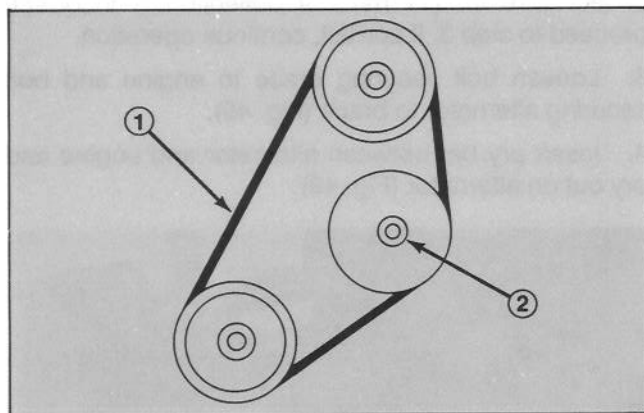

Figure 50
3. Belt should deflect 1/4 in. (6 mm) midway between the pulleys with 5 lb force (22 n) (Fig. 50). If deflection is incorrect, proceed to step 4. If correct, proceed to step 5.
4. Loosen locknut securing idler pulley (Fig. 50). Push idler pulley against belt until proper deflection is achieved and tighten idler pulley locknut (Fig. 50).
2. Loosen locknut securing idler pulley, slide pulley away from belt, and remove belt from top and bottom pulleys (Fig. 50).
3. Install new belt and adjust for proper tension. Push idler pulley against belt until belt deflects 1/4 inch (6 mm) with 5 lb force (22 N) midway between top and bottom pulley locknut to secure adjustments (Fig. 50).